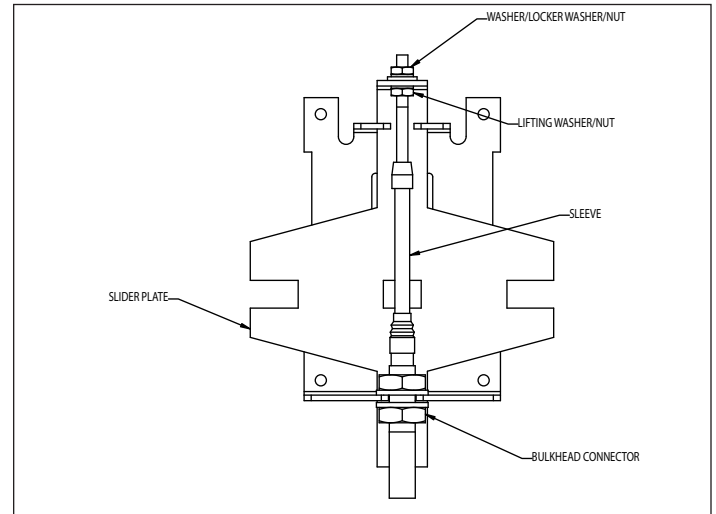

Figure 4. F-Frame Dual Actuator Mechanism.
In the event a customer must disassemble the pre-assembled Flex Shaft handle mechanism, the procedure listed below must be followed before continuing with the "Installation" instructions (see Figure 4).
8. Check the operation of mechanism for "ON", "OFF", and "RESET". Check the reset position of the actuator mechanism, that the lifting nut and sleeve of shaft do not come in contact with each other (see Figure 4). If they do, move the bulkhead connectors accordingly. If the mechanism functions incorrectly, repeat the procedure or go to Adjustment Checklist.